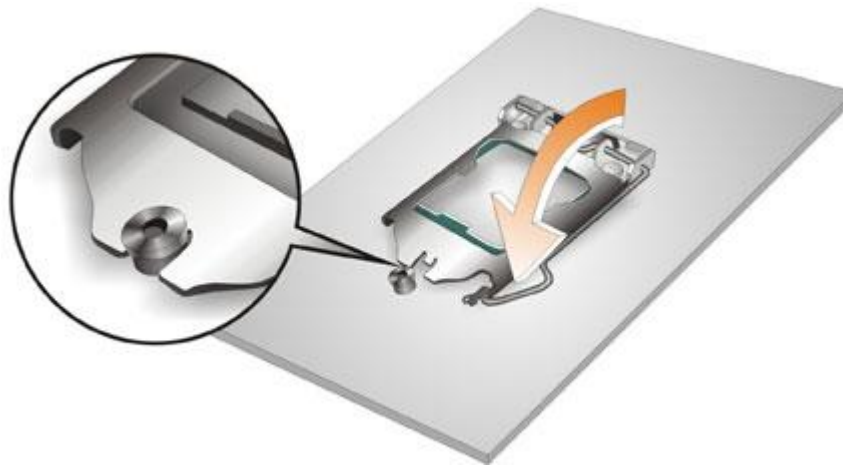

Figure 4-4: Close The Socket LGA1200
Step 8: Close the CPU socket. Close the load plate and pull the load lever back a little to have the load plate be able to secure to the knob. Engage the load lever by pushing it back to its original position (**Figure 4-4**). There will be some resistance, but will not require extreme pressure.